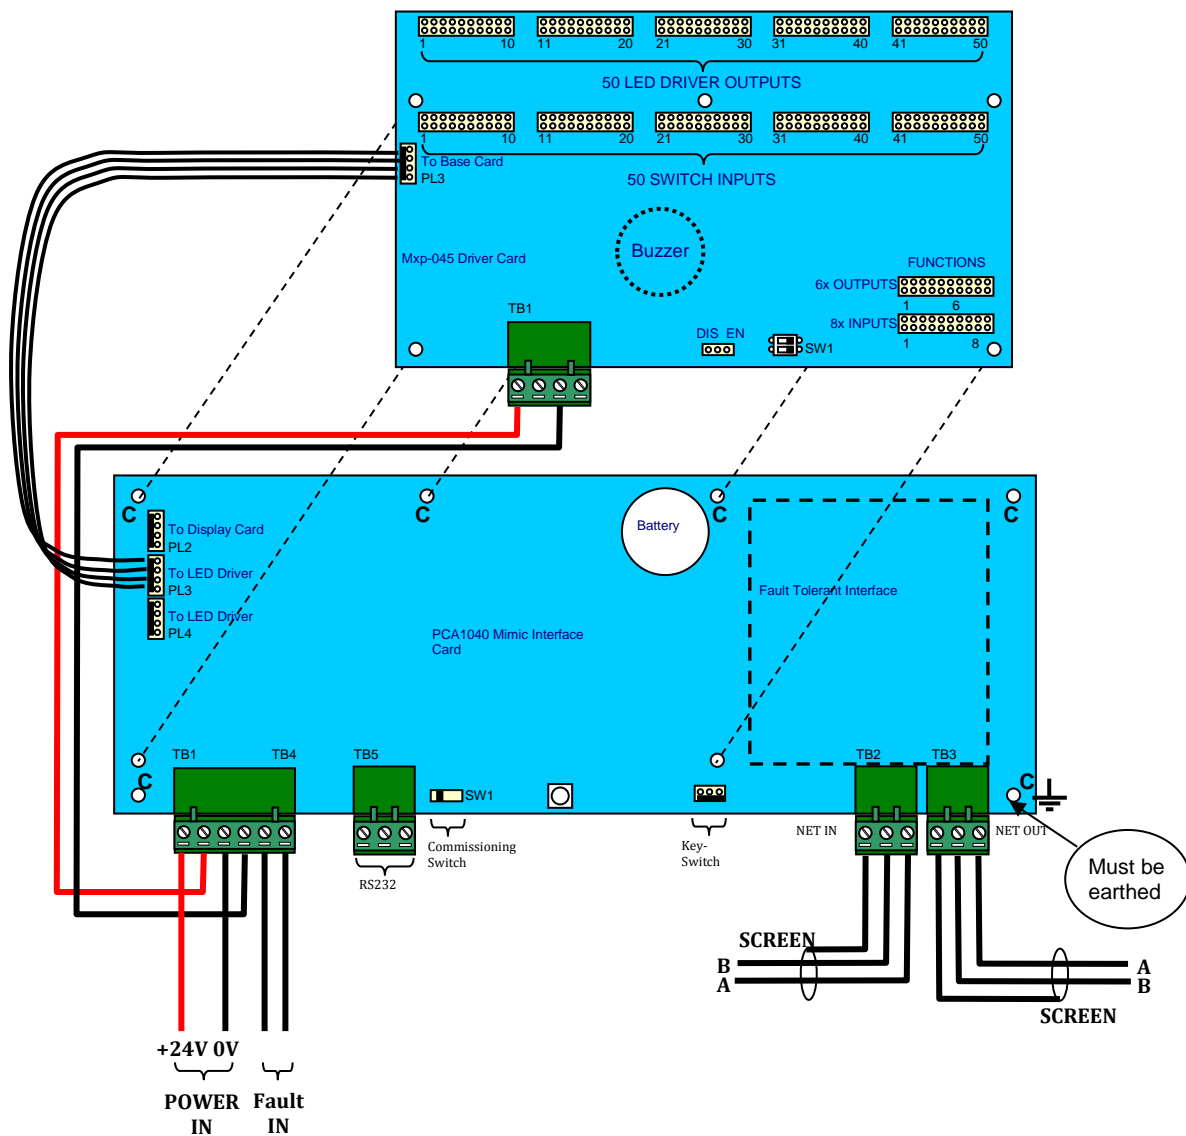

Figure 2 - Card Interconnections
The interface card, its internal connections to the driver card and its external connections are shown in Figure 2 below.
The card is provided with six (6) M3 fixing holes (marked C in Figure 2).
Figure 2 above shows the positions for all connections to the unit.